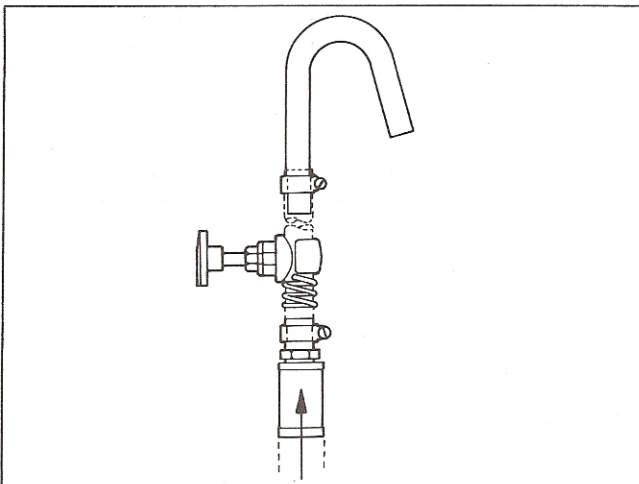

Figure 5. Type SL System
- a. **Type SL (Figure 5):** Consists of 3/4" coupling, 3/4" slip-on hose fitting, 2 (two) stainless hose clamps, 8" steel wire spring to prevent hose kinking, hook over nozzle.